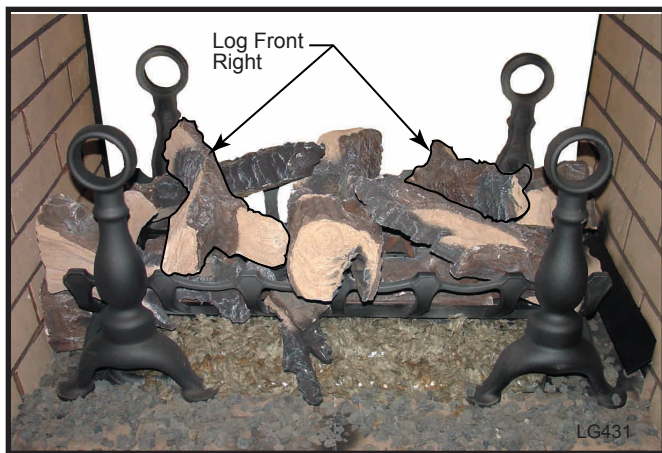

Fig. 51 Position log front right.
11. Position the log front right. (Fig. 51) Hold the log with the two (2) branches toward you. Set the left branch on the inside of the second tine of the fettle and drop the right branch on the overlay behind the log positioned in Step 7. Lay the other end of the log over the notch located on the log positioned in Step 10. Make sure to clear the opening on the overlay when looking straight down.